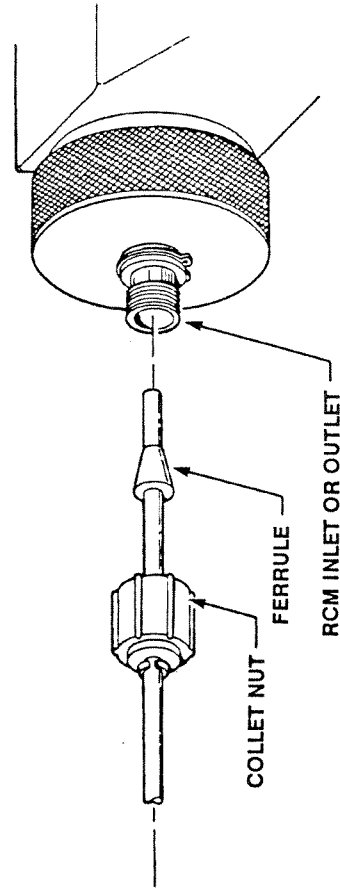

FIGURE 3-3 MAKING CONNECTIONS TO THE RCM
2. Insert the tubing into the inlet of the RCM (Figure 3-3) until it bottoms, slide the ferrule in, then tighten the collet nut finger tight.